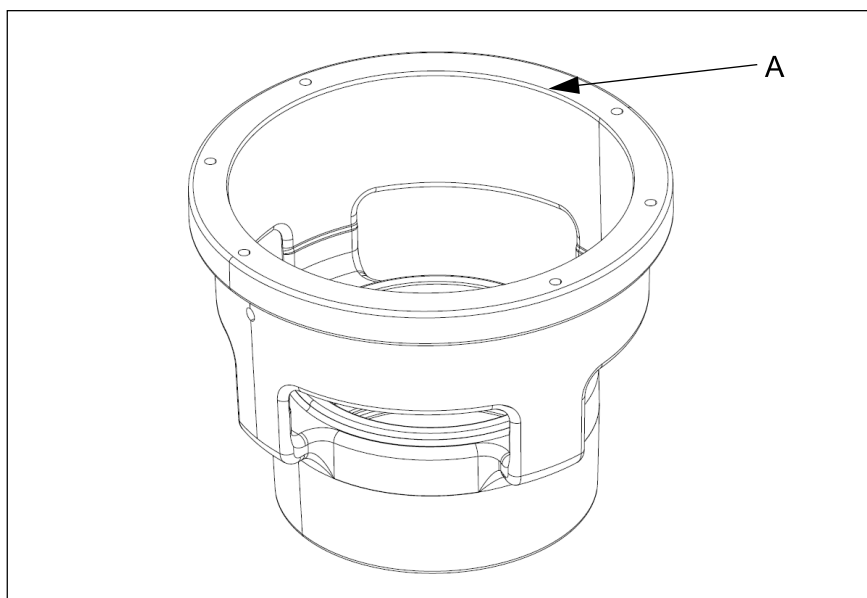

Fig. 13:
3. Check bearing surface (A, Fig. 13) for excessive wear or stress fractures in the aluminium casting.